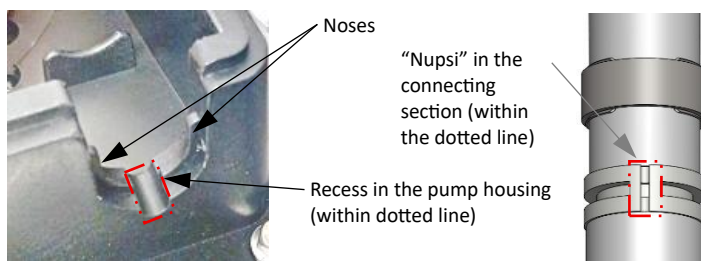
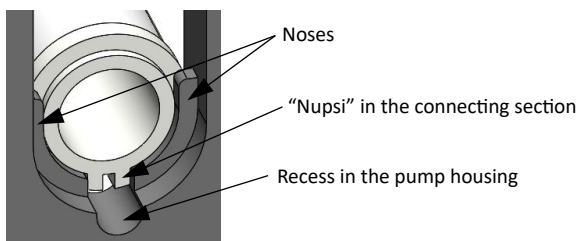

Figure 19: Section of the housing of the peristaltic pump in the area of the hose passage (left) and section of the hose system (right)
Figure 20: Sectional view of the housing of the peristaltic pump in the area of the hose passage (left)
- b.) Align the “nupsi” with the recess in the pump housing (see Figure 19 and Figure 20). Slightly rotating the hoses can make alignment easier.